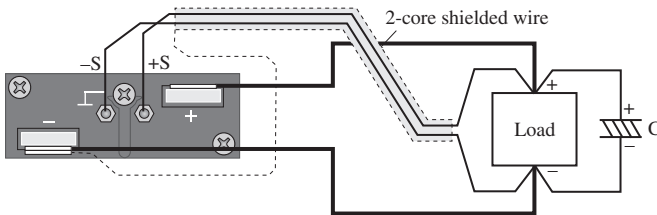

Fig.3-5 Remote sensing connection
3. As shown in Fig.3-5, connect the sensing wires between the sensing terminals and the load cable by using the screws provided.